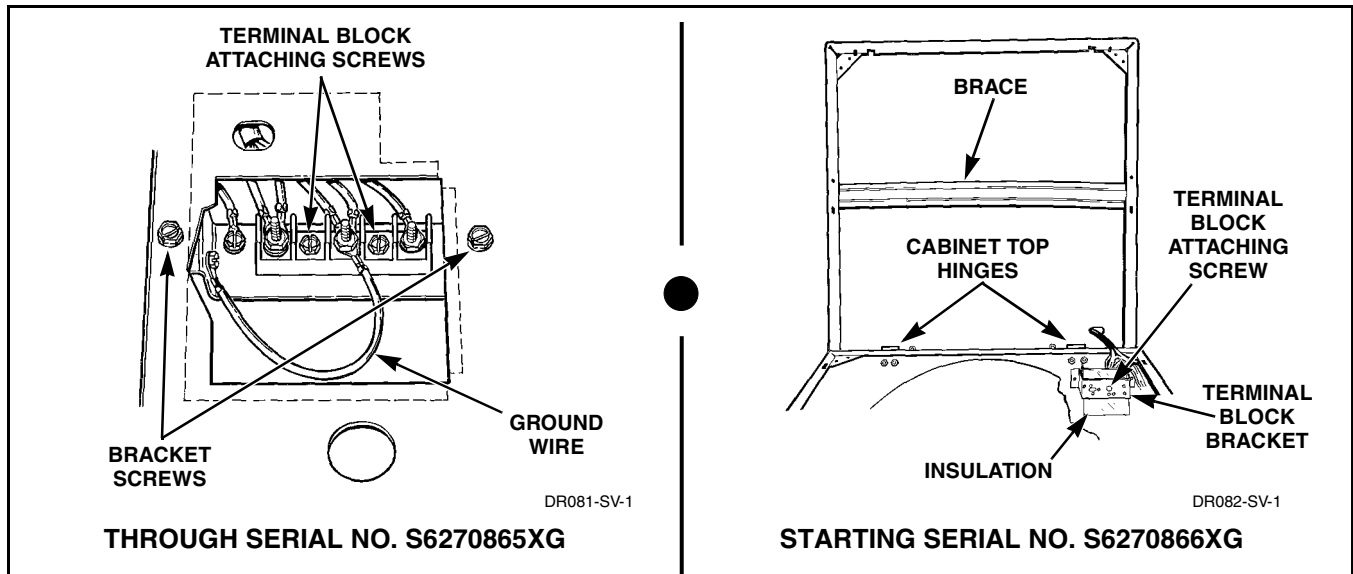

Figure 38
- a. Terminal Block – Electric Models (Refer to Figure 38)
- (5) Lift cabinet top to a vertical position by hinging it on the rear hold-down bracket. Refer to Figure 38.
- u. Remove screw holding access plate and remove plate. Refer to *Figure 38*.
- v. Remove two screws holding terminal block bracket to cabinet. Refer to *Figure 38*.